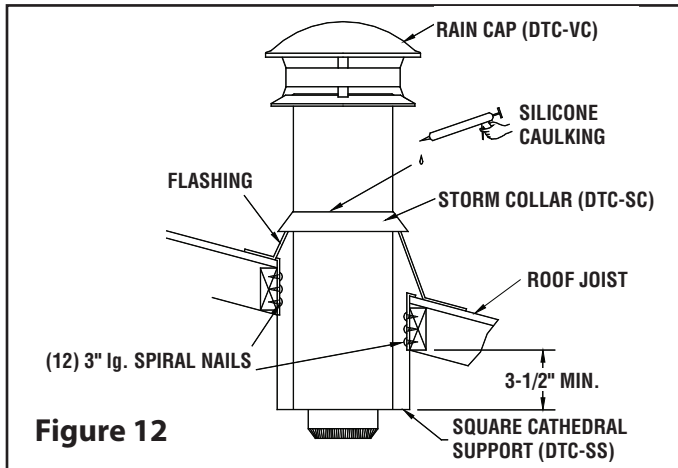

Figure 12
This support is similar in application and installation as the Cathedral Support (CS). Install it using the instructions previously mentioned (refer to Figure 12 for visual references).